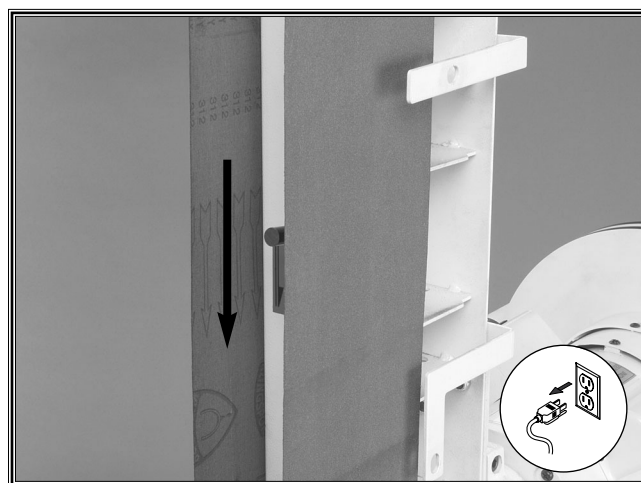

Figure 25. Installing a new sanding belt.
6. Install a new belt with the arrows in the proper direction as shown in **Figure 25**.